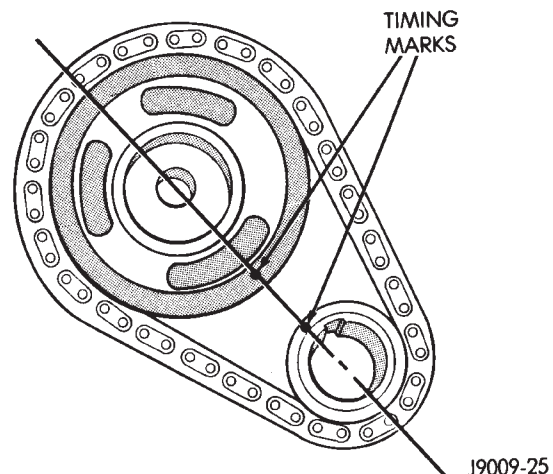

Fig. 50 Timing Chain Alignment
- (7) Remove the serpentine drive belt.
- (8) Remove the crankshaft vibration damper.
- (9) Remove the timing case cover. Clean the gasket material from the cover.
- (10) Rotate crankshaft until the crankshaft sprocket timing mark is closest to and on the center line with the camshaft sprocket timing mark (Fig. 50).
- (1) Clean the camshaft pin hole.
- (2) Compress the center of the replacement spring pin with vise grips.
- (3) Carefully drive the pin into the camshaft pin hole until it is seated.
- (4) Install the camshaft sprocket, crankshaft sprocket and timing chain with the timing marks aligned (Fig. 50).